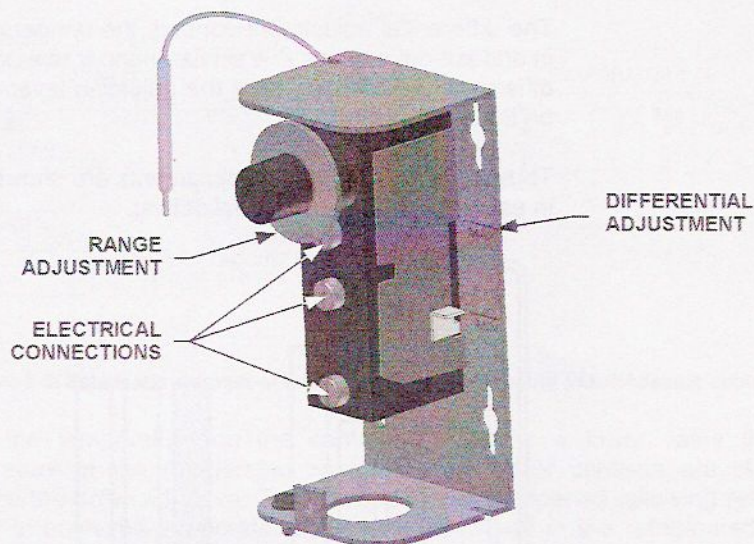

Figure 5-5. Range and differential adjustment.
Thermostatic controls are supplied with an adjustable range and differential range, similar to pressure controllers, except for their scales. Preset factory sealed units are also quite common. Range and differential adjustments on a thermostatic controller are shown in Figure 5-5.
- Make sure the differential adjustment lever is set to the "MIN." position. (Refer to Figure 5-5, if necessary, to see the location of the differential adjustment lever).
10. On thermostatic controller TIC1, increase the differential from minimum to medium. To do so, set the differential adjustment lever **halfway** between the "MIN." and "MAX." position (refer to Figure 5-5, if necessary, to see the location of the differential adjustment lever).